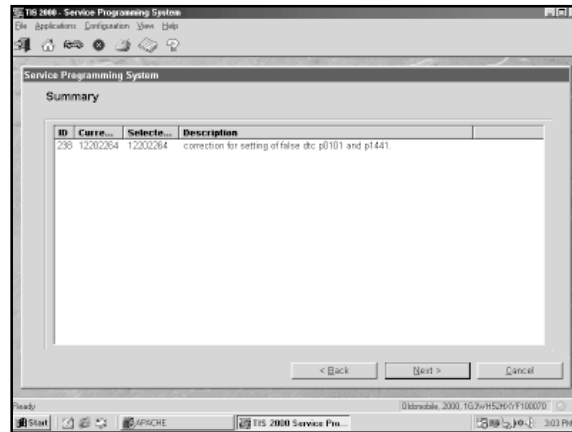

Figure I-49, Summary screen
9. A Summary screen (Figure I-49) will appear that summarizes the current and selected calibrations of the control module. Confirm your choices, then **select** Next.